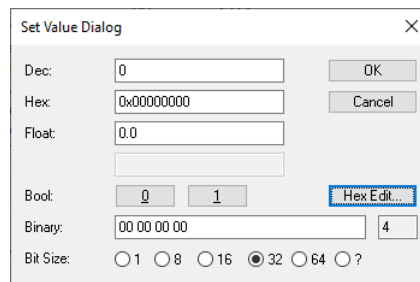

Fig. 6-38 Entering a value for saving.
- Double-click on the Index **1010:01 Initiator** to open the *Set Value Dialog* (Fig. 6-38).